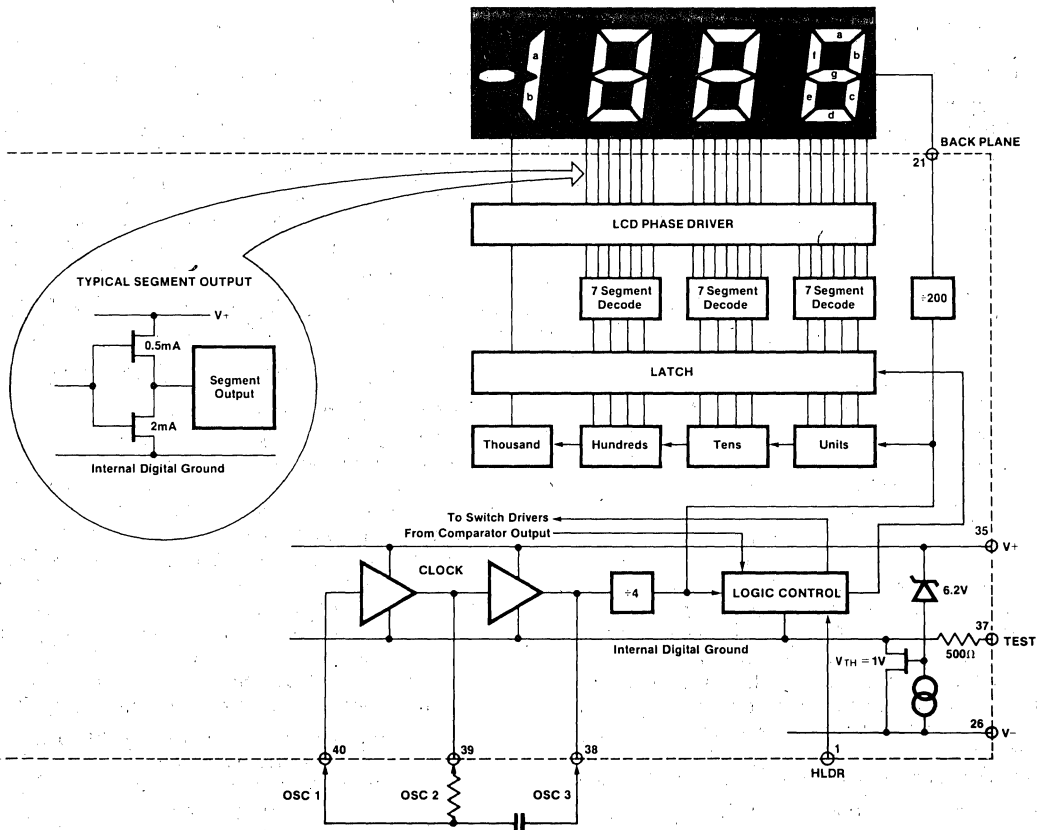

Figure 7: Digital Section 7116
Figures 7 and 8 show the digital section for the 7116 and 7117, respectively. In the 7116, an internal digital ground is generated from a 6 volt Zener diode and a large P channel source follower. This supply is made stiff to absorb the relative large capacitive currents when the back plane (BP) voltage is switched. The BP frequency is the clock frequency divided by 800. For three readings/second this is a 60 Hz square wave with a nominal amplitude of 5 volts. The segments are driven at the same frequency and amplitude and are in phase with BP when OFF, but out of phase when ON. In all cases negligible d-c voltage exists across the segments.